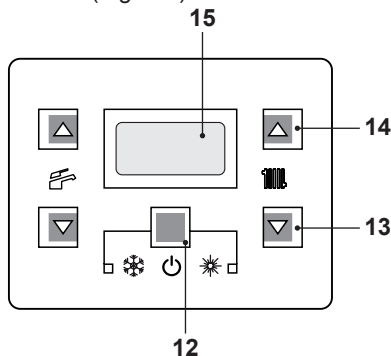
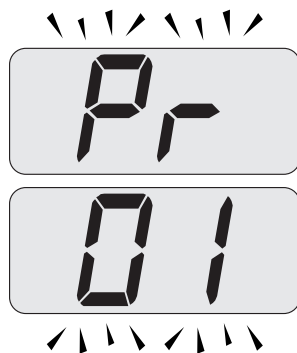

Fig. 8.7
Fig. 8.8
- Enter in "programming mode" by sequentially pressing and holding keys 12 - 13 - 14 (Fig. 8.7) for 10 seconds at the same time until the letters **Pr** that alternate with code 01 are displayed on the LCD display, indicating that "parameter 01", has been activated (Fig. 8.8).
- Press keys 12 and 14 (Fig. 8.7) at the same time until the value of parameter 15 (Fig. 8.10) is displayed on the LCD display.
- By pressing key 12 (Fig. 8.7) confirmation of the inserted value is obtained.
- Press keys 12 and 13 (Fig. 8.7) at the same time to exit without changing the value (return to the parameters list Fig. 8.9).
- Press sequentially keys, 12 - 13 and then 14 (Fig. 8.7) and hold in for 10 seconds to exit the "programming mode".
However, if the ambient temperature is not comfortable, the flow temperature of the heating system can be increased or reduced by $\pm 15^{\circ}\text{C}$ by pressing keys 13 (reduce) and 14 (increase) (Fig. 8.7).